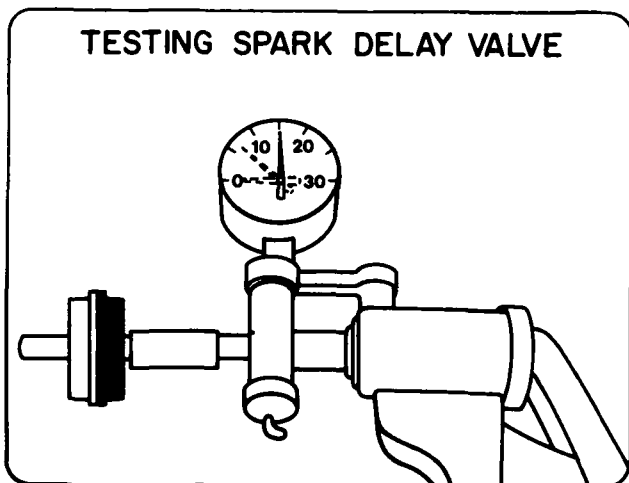

Figure 9-14
4. Figures 9-14 and 9-15 show a spark delay valve being tested. List the basic steps necessary to perform this test.